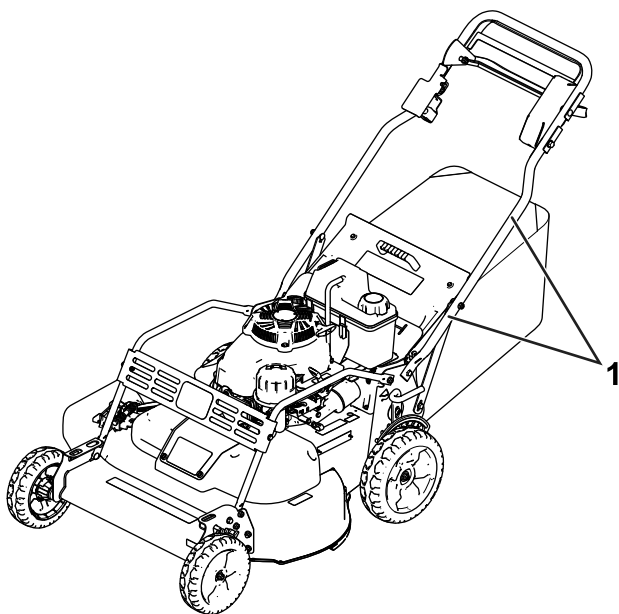

Figure 18
12. Attach 2 cable ties at the indicated locations shown in Figure 18.